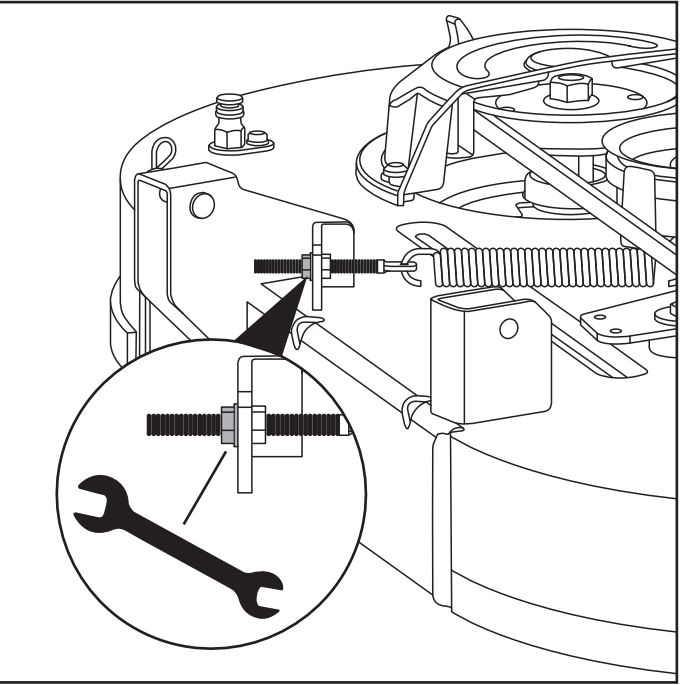

Fig. 29
- 1. The deck cable is set at the factory with no exposed threads showing behind the jam nut (b).(Fig. 29)